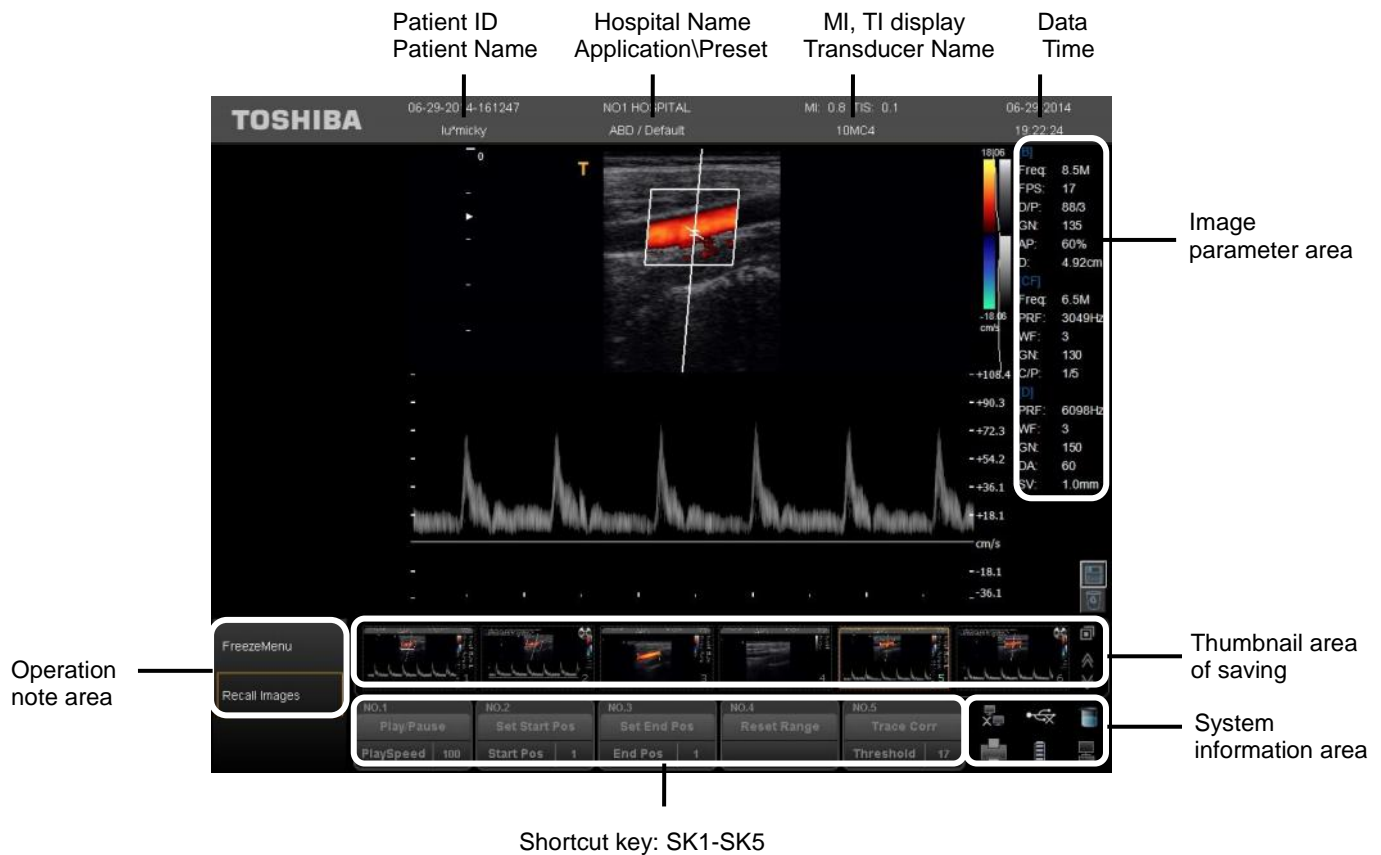

Fig. 4-3
- operation note area: The first line shows the status of the current system. The second line indicates the current function of the trackball. In the picture Fig. 4-3, the first line display “freeze menu”. It means the system is in frozen status. The second line display “recall image”. It means moving the trackball can recall the images in current status.